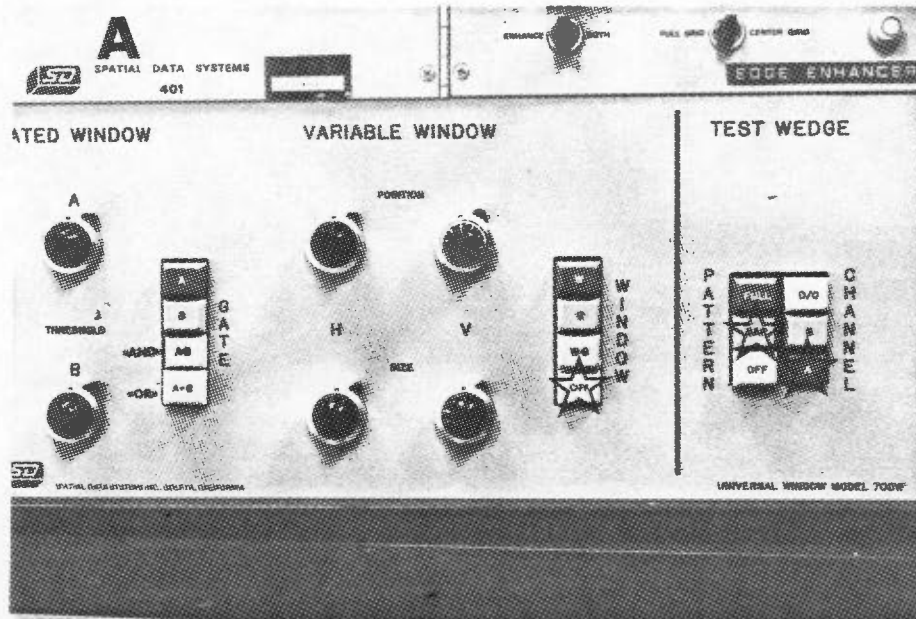

Figure 7.1. Universal Window Chassis
3. If the electronically generated gray level standard is required to be with the image to be analyzed or recorded, turn on the standard which is located in the Universal Window Chassis (UWC) Test Wedge section. To turn the standard on, push **BAR** and **A** or **B** to create a continuous tone test wedge on the top of the edge enhancer's (EH) monitor and the colour monitor. In the Window section of the UWC push the **OFF** button. In Figure 7.1 the stars ★ show buttons to be pushed.